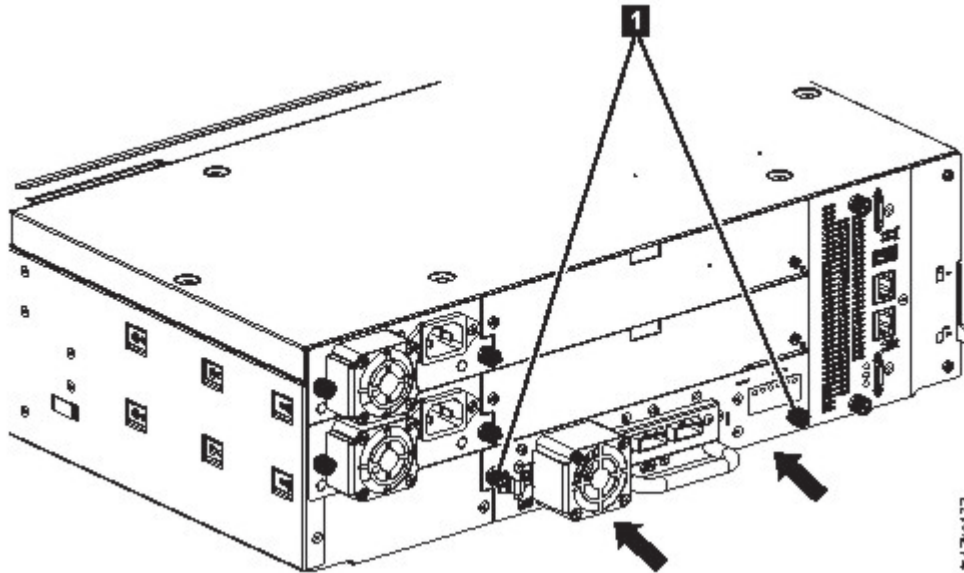

Figure 61. Installing a tape drive
- 3. Tighten the captive thumbscrews (**1** in Figure 61 on page 110) with your fingers until the tape drive is secure.